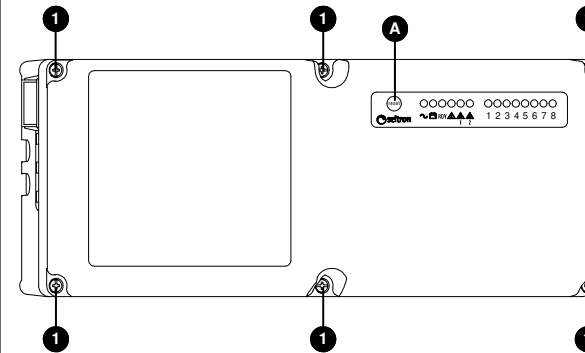

Fig. 1: External aspect.
RESET KEY (A of Fig. 1)
The use of this key located on the front (Fig. 1) depends on the 'LATCH' dip-switches made set-up and of connector 'JP4' (see paragraph 'JUMPER AND DIP-SWITCH SET-UP').
- Remove the 6 screws indicated in 1 Fig. 1 and remove the front panel.